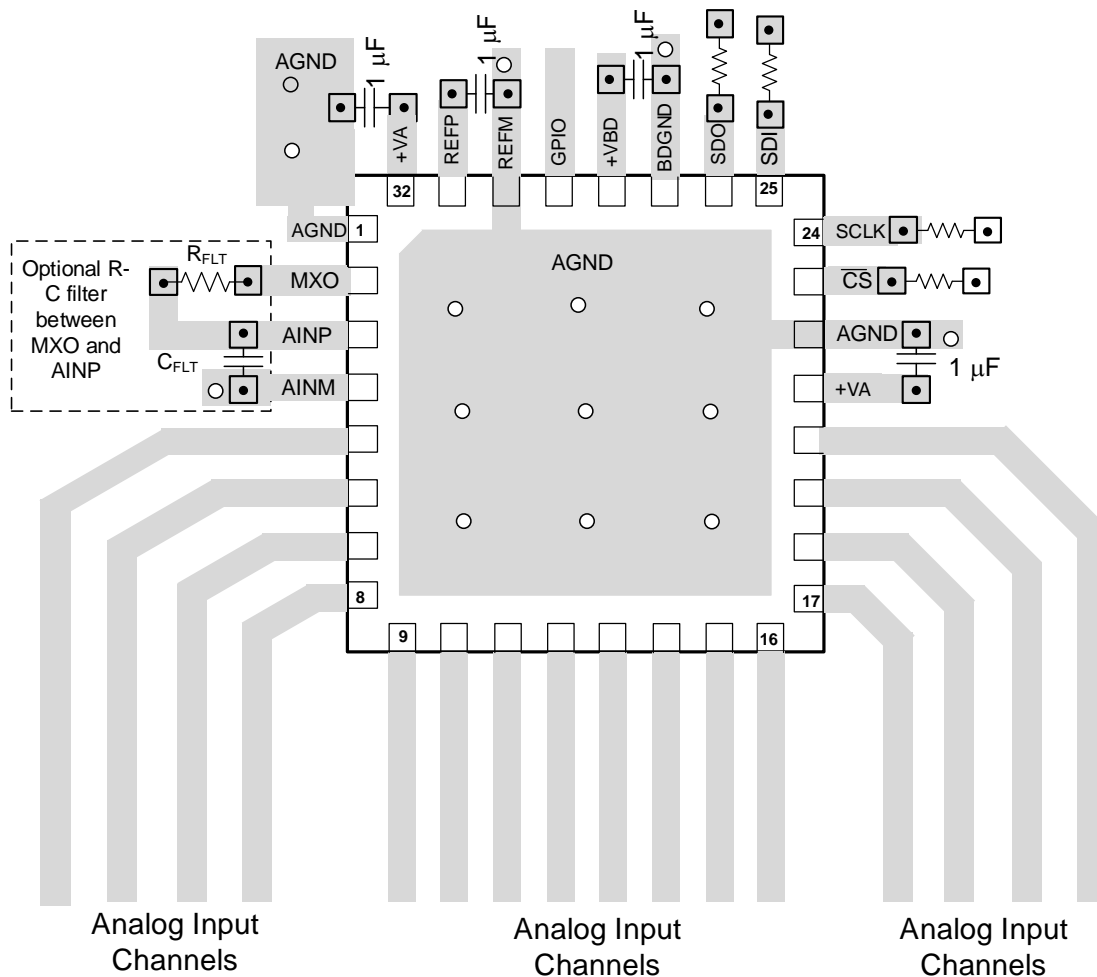

Figure 70. Recommended Layout for the VQFN Packaged Device
- The power sources must be clean and properly decoupled by placing a capacitor close to each of the three supply pins, as shown in Figure 69 and Figure 70. To minimize ground inductance, ensure that each capacitor ground pin is connected to a grounding via by a very short and thick trace.
- The REFP pin requires a 10- $\mu\text{F}$  ceramic capacitor to meet performance specifications. Place the capacitor directly next to the device. This capacitor ground pin must be routed to the REFM pin by a very short trace, as shown in Figure 69 and Figure 70.